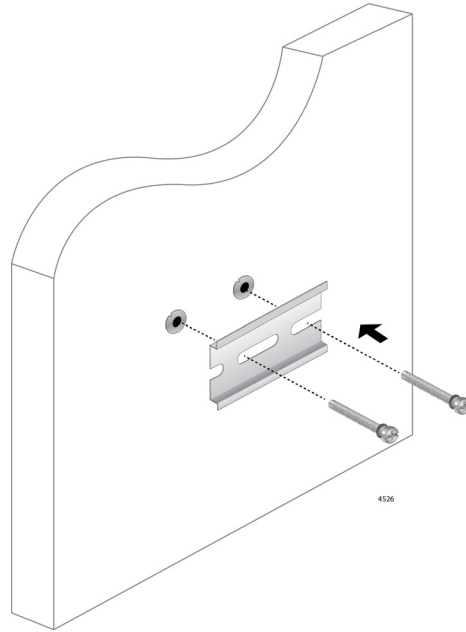

Figure 17. Installing the Piece of DIN Rail on the Wall
4. Align the openings in the piece of the DIN rail to the metal anchors on the wall and insert the screws into the metal anchors. See Figure 17 on page 37.